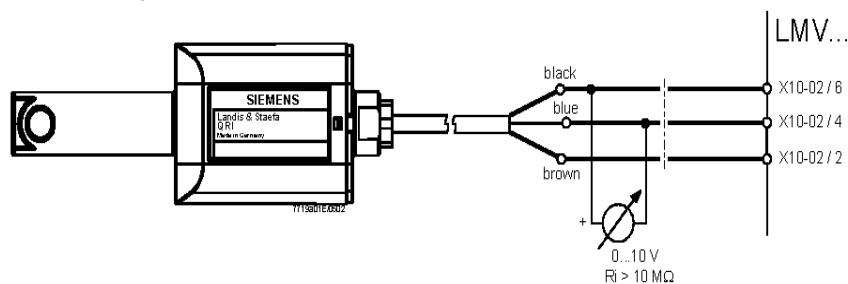

Fig. 4 - Detection with detector QRI...
2. Slide VD forward up to the stop, fig. 4.